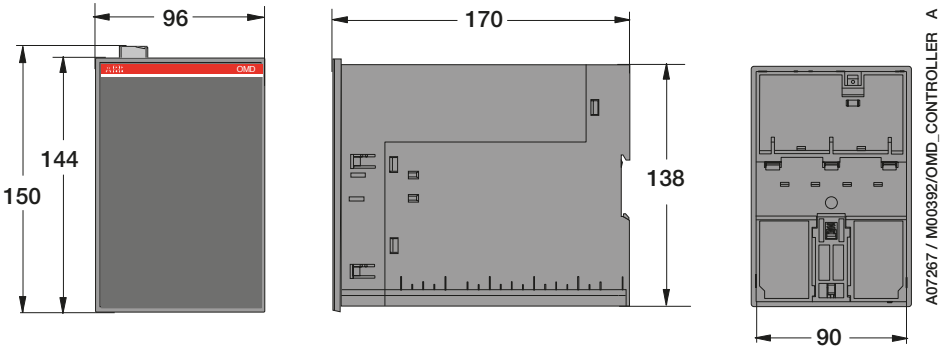

Figure 4.1 OMD800, dimensions of the device
- Make sure that power LED is ON, see the Figure 4.1/①.
- If Auto LED is OFF /②, the automatic control unit is in Manual Mode.
- If the Auto LED is ON, push the AUTO key once /③. The Auto LED switches to OFF and the automatic control unit OMD800 is in Manual Mode /④.